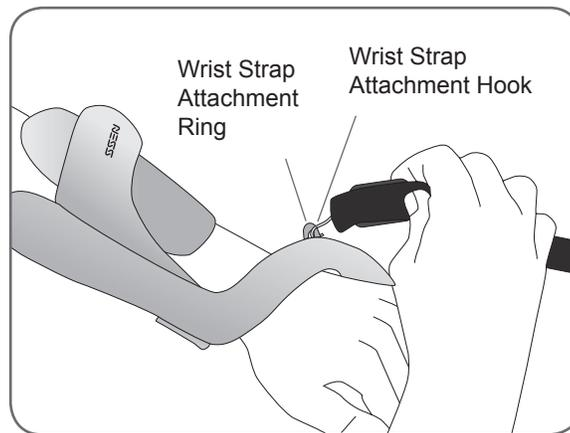

Figure 6-11: Attaching the wrist strap.
1. Attach the hook on the wrist strap to the attachment ring on the Orthosis wrist bridge. See Figure 6-11.